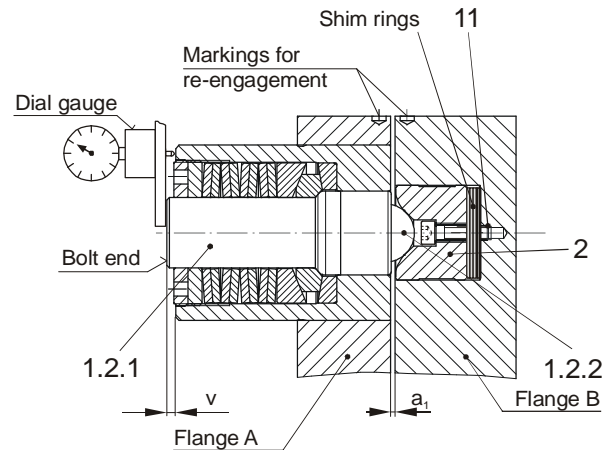

Fig. 6
- ❑ The EAS®-element (1) and the thrust piece (2) must align exactly (Fig. 6).
- ❑ Determine the pre-tensioning using difference dimension measurement "v" (see Fig. 6, distance between the bolt end and the screw-on bushing).
- ❑ Pre-tension the element by placing shim rings under the thrust piece (2).
4. Mount the thrust piece (2) and the EAS®-element (1) into the adaptor bores.
6. In order to correct the pre-tension, both the EAS®-element (1) and the thrust piece (2) must be de-installed again.
7. Now the required pre-tension acc. Table 1 can be set by adding or removing shim rings under the thrust piece (2).
10. Mark flanges A and B when the EAS®-elements (1) are engaged, see Fig. 6. These markings serve to find the correct angular position for re-engagement after overload occurrence. On re-engagement, the EAS®-elements (1) and the thrust piece (2) must align exactly.